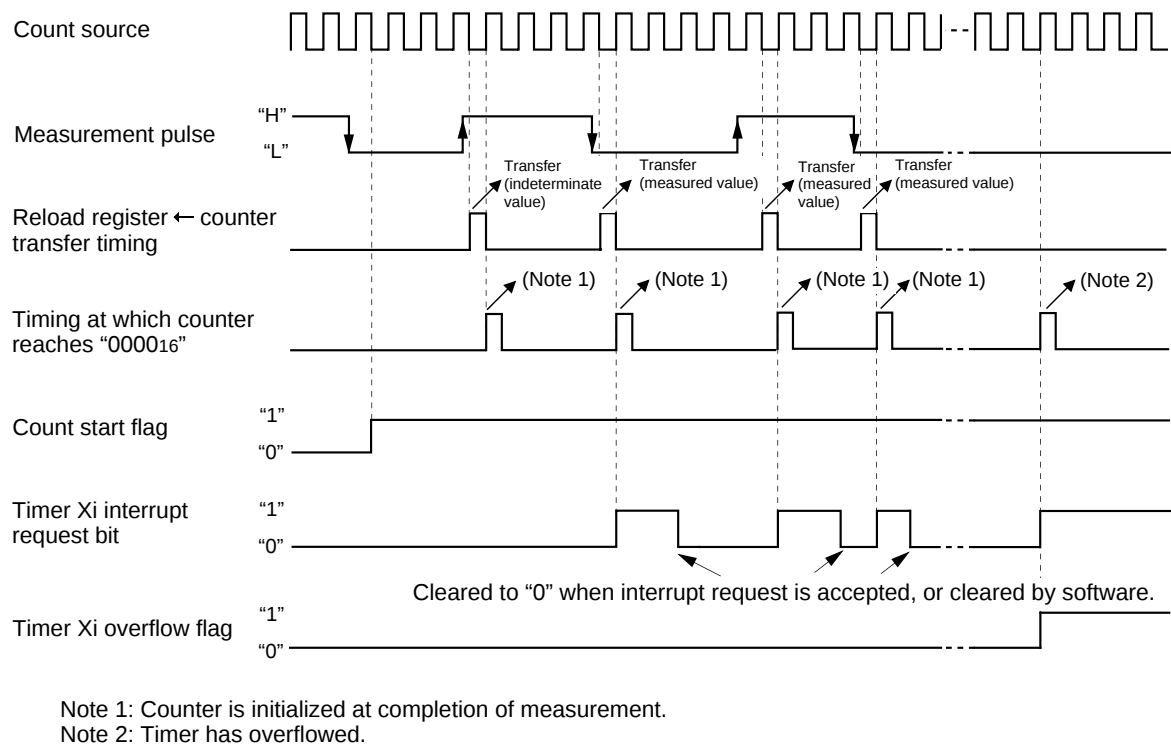

Figure 1.65. Operation timing when measuring a pulse width
1.64 shows the operation timing when measuring a pulse period. Figure 1.65 shows the operation timing